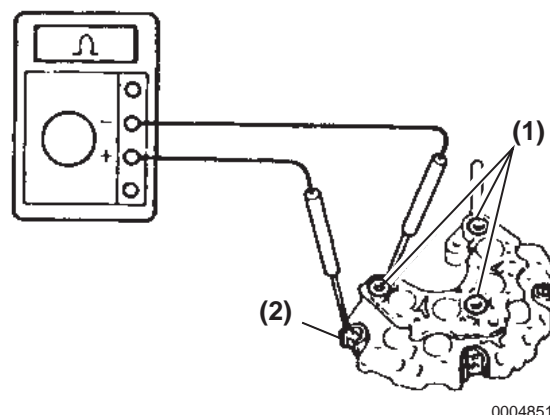

Figure 11-26
4. Check the negative rectifier. Connect one of tester probes of an ohmmeter to the negative (-) terminal (**Figure 11-26, (1)**) and the other probe to the rectifier terminal (**Figure 11-26, (2)**).